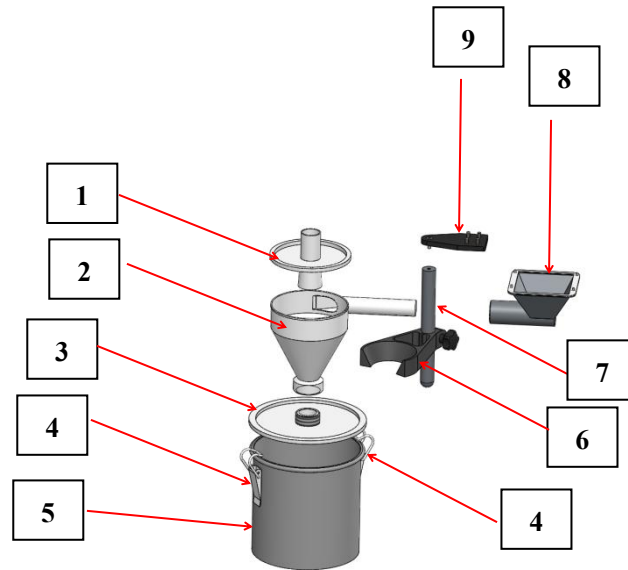

Fig 5.17.1
5.17.1 Function introduction of parts: fig 5.17.1